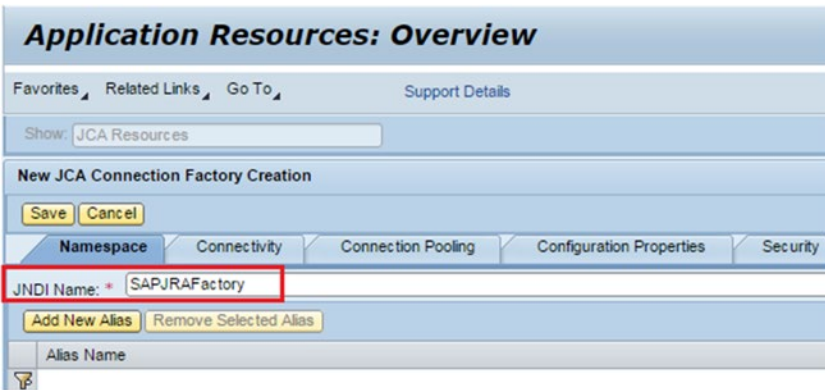

Figure 7-161. JNDI configuration for JRA factory
7. Enter a relevant resource name for the JNDI (Java Naming Directory Interface) name (see Figure 7-161):